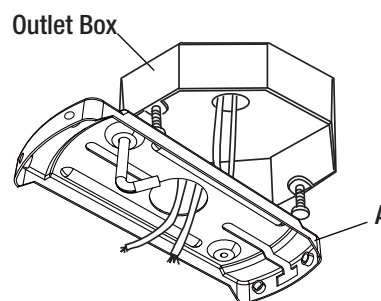

Figure 8
- Pass the 120-volt supply wires through the center hole in the mounting bracket (A) as shown in Figure 8.
- Attach the mounting bracket (A) on the electrical box by sliding the mounting bracket (A) over the screws provided with the outlet box. Make sure the mounting bracket (A) is level. You may need to insert additional washers (not provided) between the outlet box and the mounting bracket (A) to make it level. Note the flat side of the mounting bracket (A) should be toward the electrical box.
- Tighten the two mounting screws securely and carefully lift the fan assembly up to the mounting bracket (A).